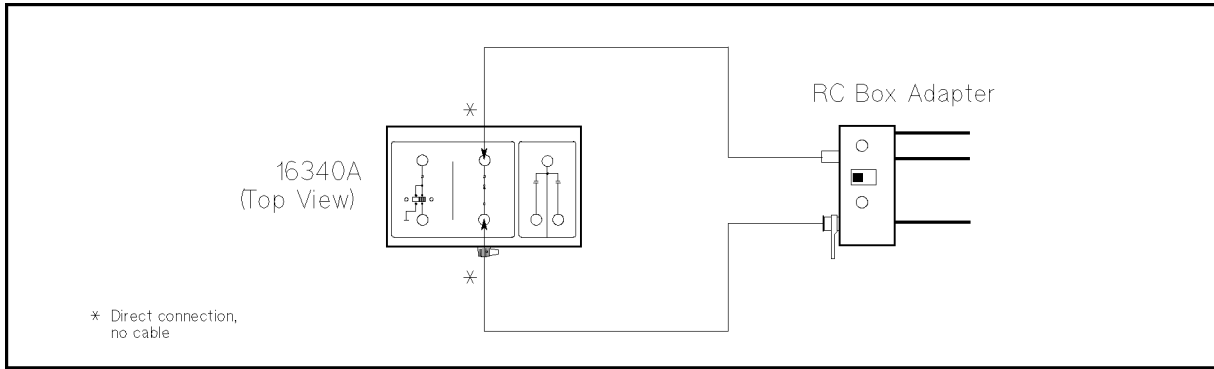

Figure 9-7. RC Box Connection (Floating)
11. Connect the RC Box to the RC Box Adapter as shown in Figure 9-7